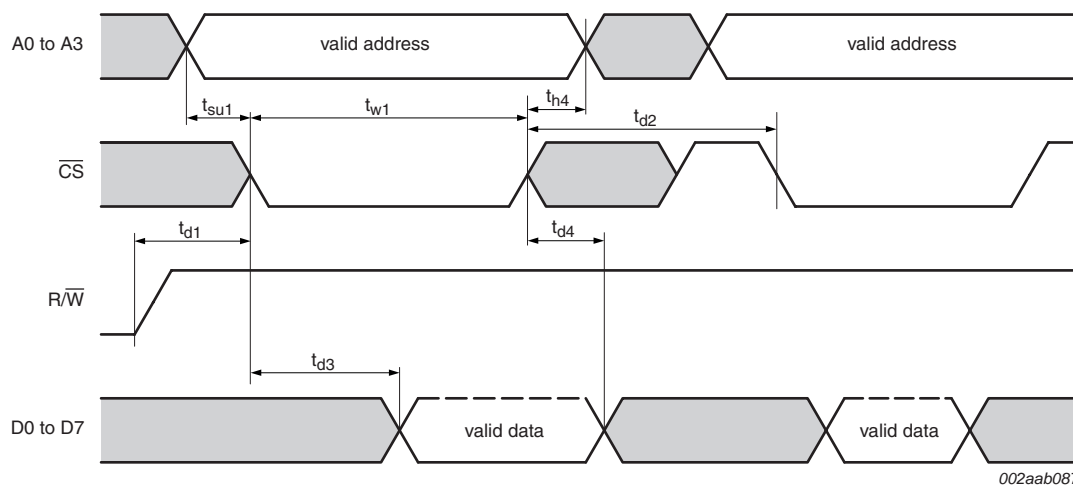

Fig 14. General read timing
- (2)  $\overline{CS}$  timing during a read cycle. See Figure 14.